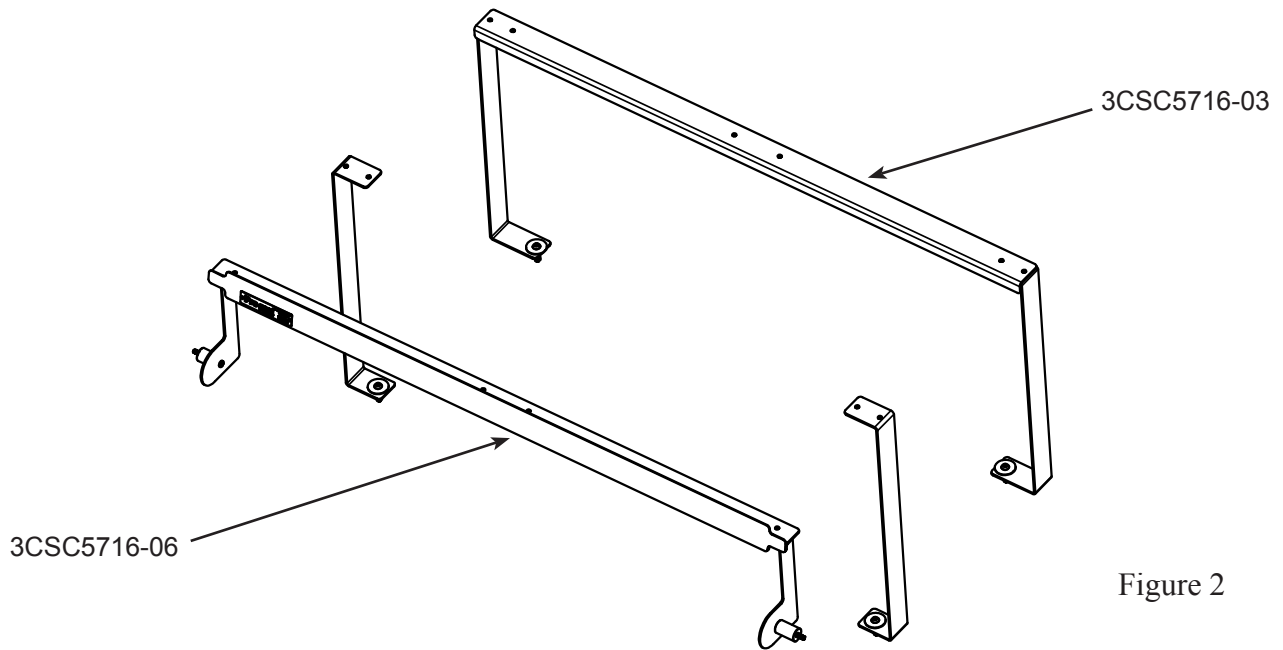

Figure 2
- C. Place the front cross member 3CSC5716-03 into place over the tops of brackets 3CSC5716-04, making sure that the two holes on each side of the parts align with one another. See Figure 2.
- D. Now place the rear cross member 3CSC5716-06 into place over the tops of brackets 3CSC5716-07-DS & PS, making sure that the holes on each side of the parts align with one another. See Figure 2.